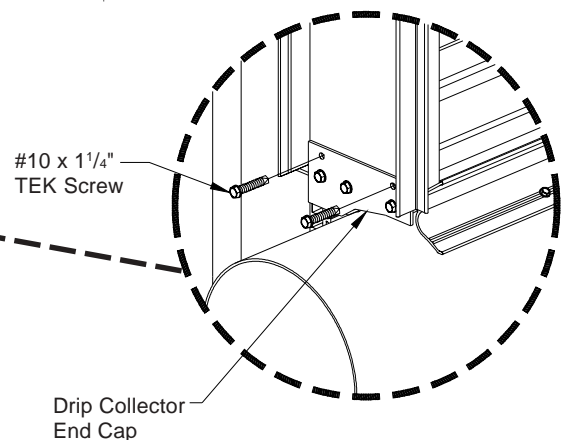

Figure 11E
- 14c) Slide left end panel into framing and into drip collector on left end. End panel should fit snug, make sure ribs sit down tight into the drip collector. Fasten the last 2 screws into the drip collector end cap using (2) #10 x 1/4" TEK screws. **See Figure 11E.**